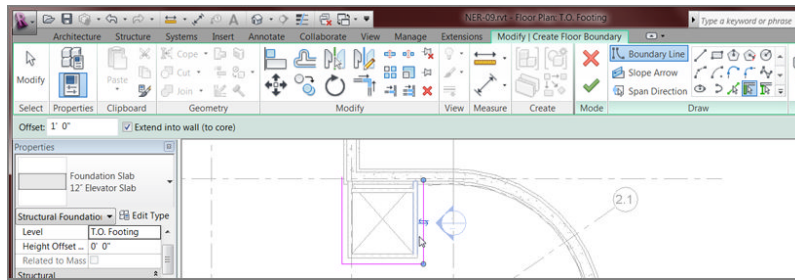

FIGURE 8.63: When picking the elevator shaft walls, be sure to include the 1'-0" (300mm) offset.
13. Pick the three elevator shaft walls, as shown in Figure 8.63.